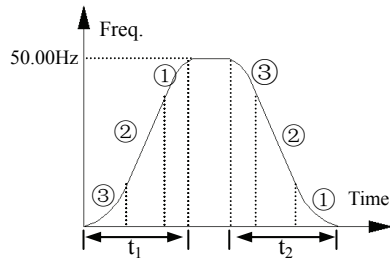

Fig. 7-2 S curve acc/dece
1:S curve acc/dece mode.output frequency raise or decline as the S curve: as fig.7-2.
S curve start interval time as fig.7-2③, output frequency changed slope increase slowly from zero.
S curve up interval time as fig.7-2②, output frequency changed slope is constant.
S curve end interval time as fig.7-2①, output frequency changed slope decrease